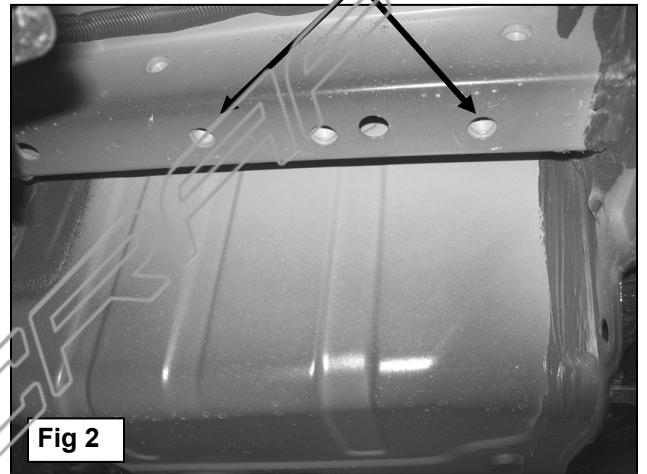

Fig 2
3. Locate the factory threaded holes in the bottom of the frame rail channel. Position the Frame Bracket up to the frame channel and line it up with the two outside threaded holes, **(Figure 2)**.